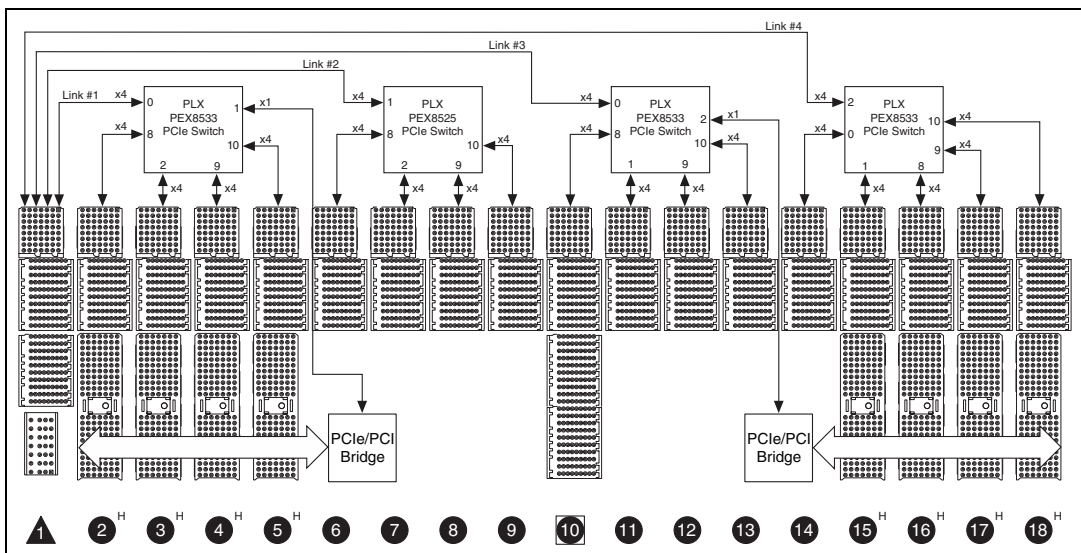

Figure 1-3. NI PXIe-1075 Backplane Architecture
Refer to Figure 1-3 for an overview of the NI PXIe-1075 architecture.
The backplane routes each of the system slots' x4 PCI Express (PCIe) links to a PCIe switch. The four (4) PCIe switches have x4 PCIe links routed to each peripheral slot as well as x1 links to two (2) PCIe-to-PCI bridges providing 32-bit/33 MHz PCI busses to the hybrid slots. Refer to Figure 1-3 for the connectivity of PCIe and PCI.